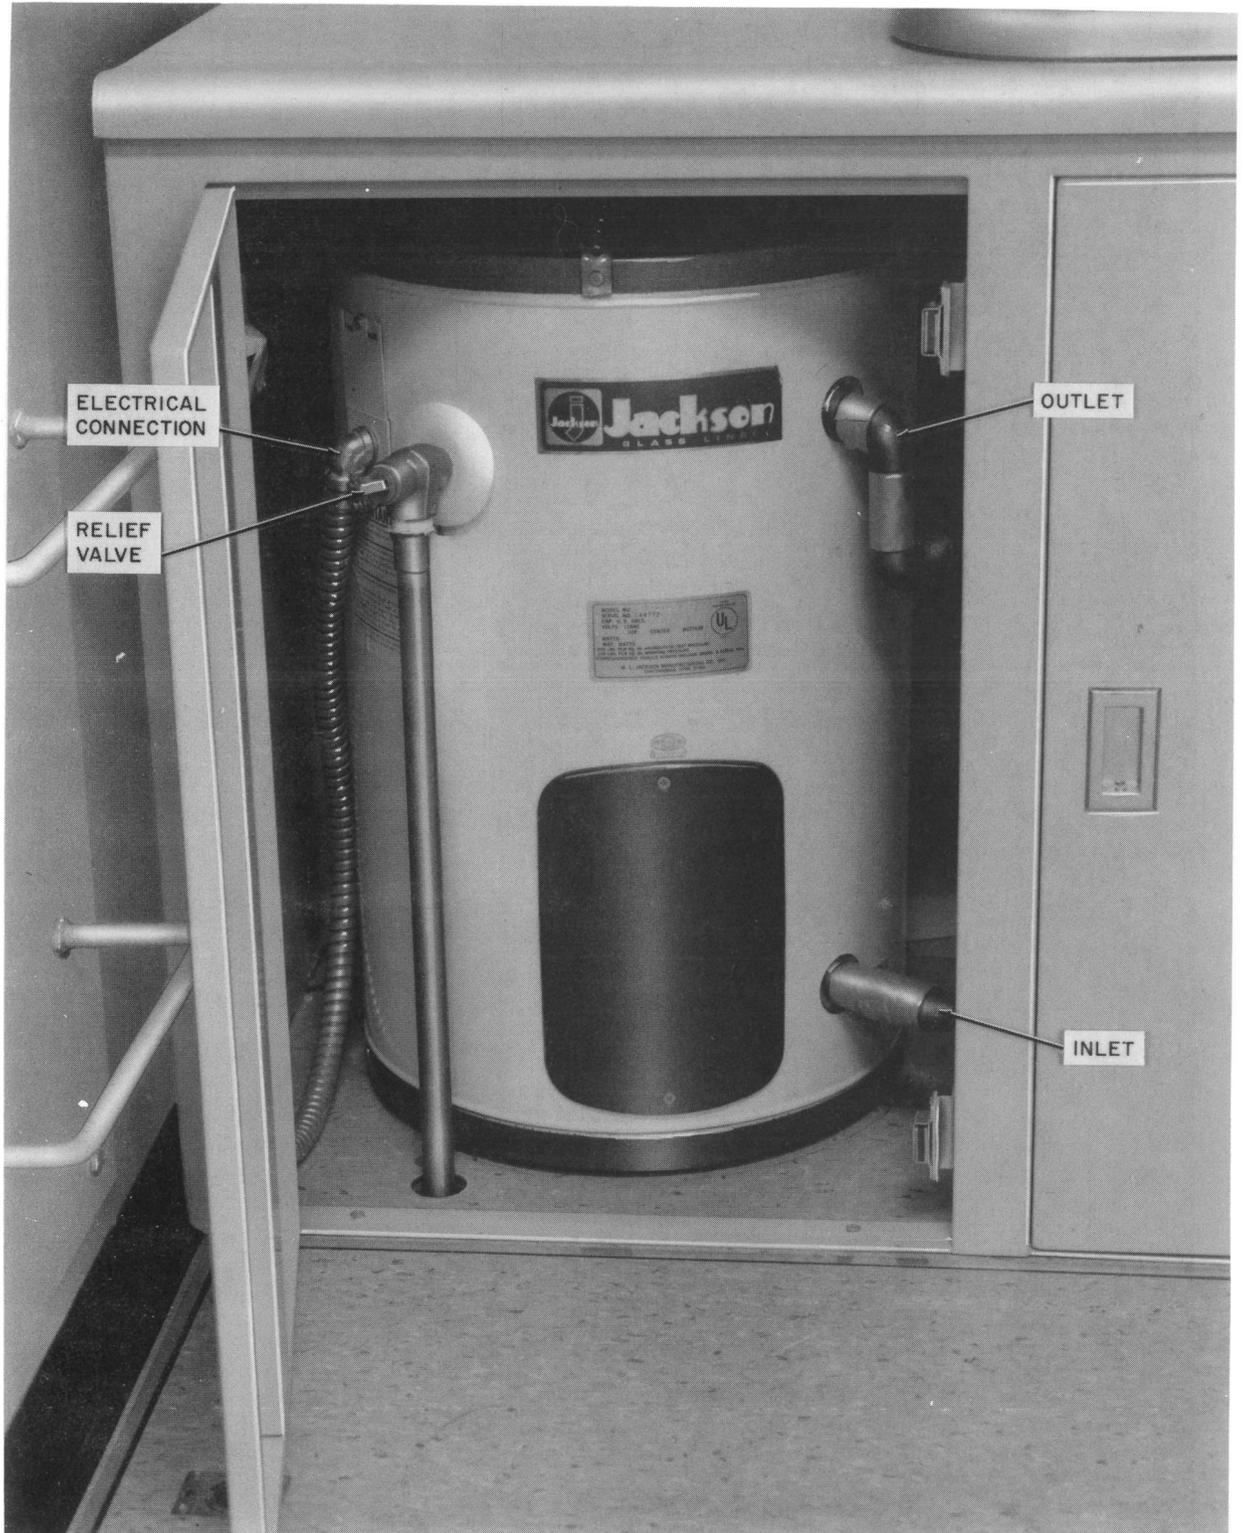

Fig. 33—Jackson Electric Water Heater
9.01 The electric water heater (Fig. 33) is manufactured by W.L. Jackson* Mfg. Co.,